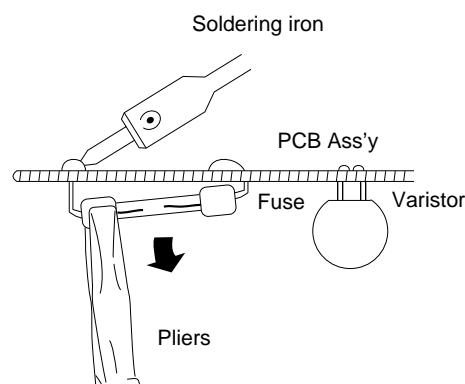

Fig. 6
- Pull the fuse from the metal clasp using pliers while heating the soldered leads on the back side of the PCB Ass'y with a soldering iron (30W or 60W). (Fig. 6)